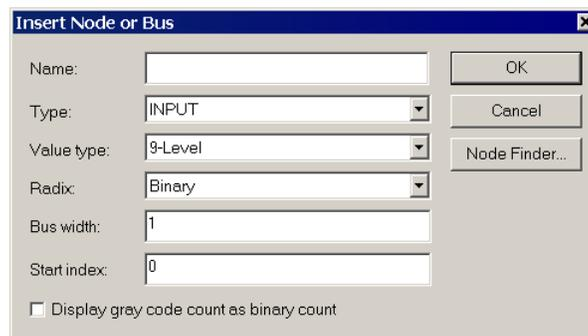
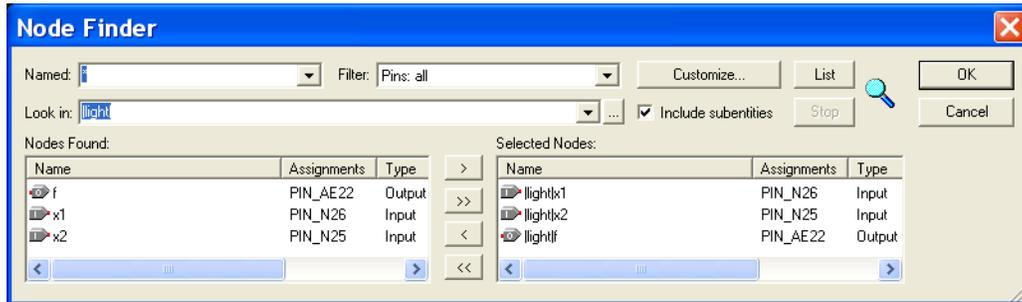
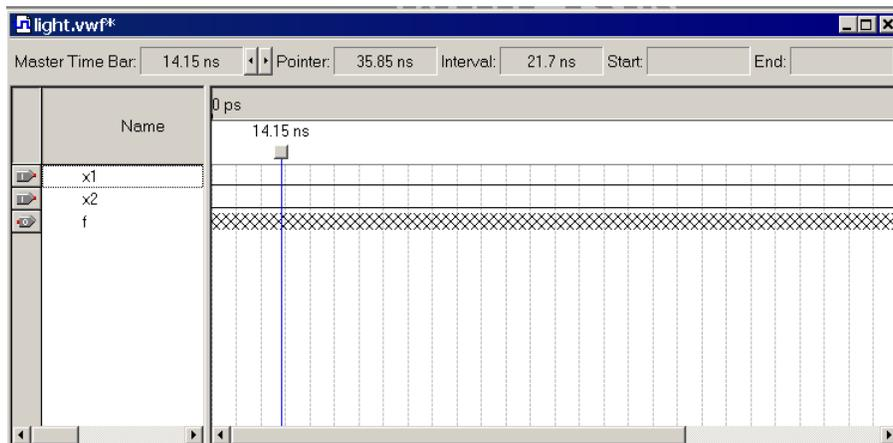

Figure 34. The Insert Node or Bus dialogue.
Figure 35. Selecting nodes to insert into the Waveform Editor.
Figure 36. The nodes needed for simulation.
- Next, we want to include the input and output nodes of the circuit to be simulated. Click **Edit > Insert Node or Bus** to open the window in Figure 34. It is possible to type the name of a signal (pin) into the Name box, but it is easier to click on the button labeled **Node Finder** to open the window in Figure 35. The Node Finder utility has a filter used to indicate what type of nodes are to be found. Since we are interested in input and output pins, set the filter to **Pins: all**. Click the **List** button to find the input and output nodes as indicated on the left side of the figure.
Click on the $x1$ signal in the Nodes Found box in Figure 35, and then click the $>$ sign to add it to the Selected Nodes box on the right side of the figure. Do the same for $x2$ and f . Click OK to close the Node Finder window, and then click OK in the window of Figure 34. This leaves a fully displayed Waveform Editor window, as shown in Figure 36. If you did not select the nodes in the same order as displayed in Figure 36, it is possible to rearrange them. To move a waveform up or down in the Waveform Editor window, click on the node name (in the Name column) and release the mouse button. The waveform is now highlighted to show the selection. Click again on the waveform and drag it up or down in the Waveform Editor.